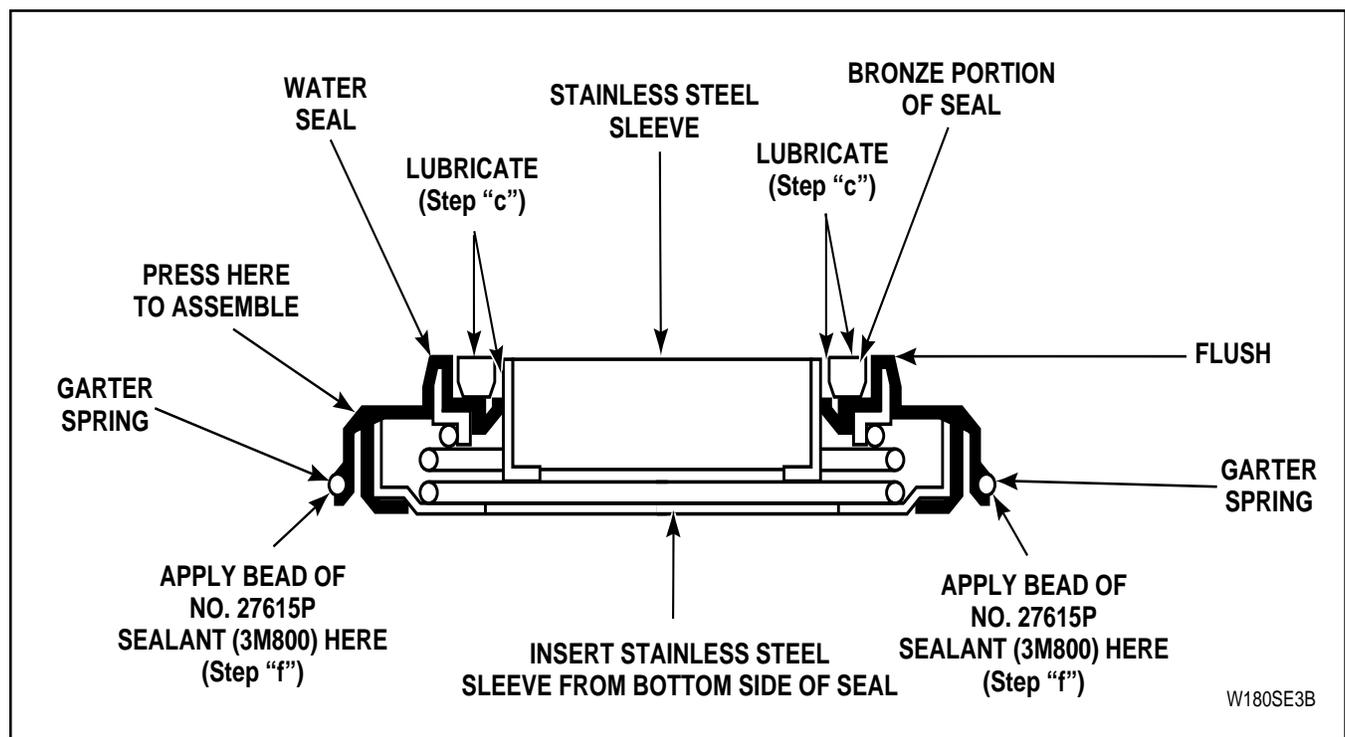

Figure 39
- Apply a light film of non-staining petroleum jelly (such as Vaseline®) to bronze portion of water seal and to outer surface of stainless steel sleeve, *Figure 39*.
- Insert stainless steel sleeve into water seal from bottom of water seal, *Figure 39*, until stainless steel sleeve is flush with bronze portion of water seal.
- Carefully apply a small amount of No. 27615P Sealant (3M800) (not supplied with kit) around outer edge of water seal and tub (area located just below garter spring), *Figure 39*.